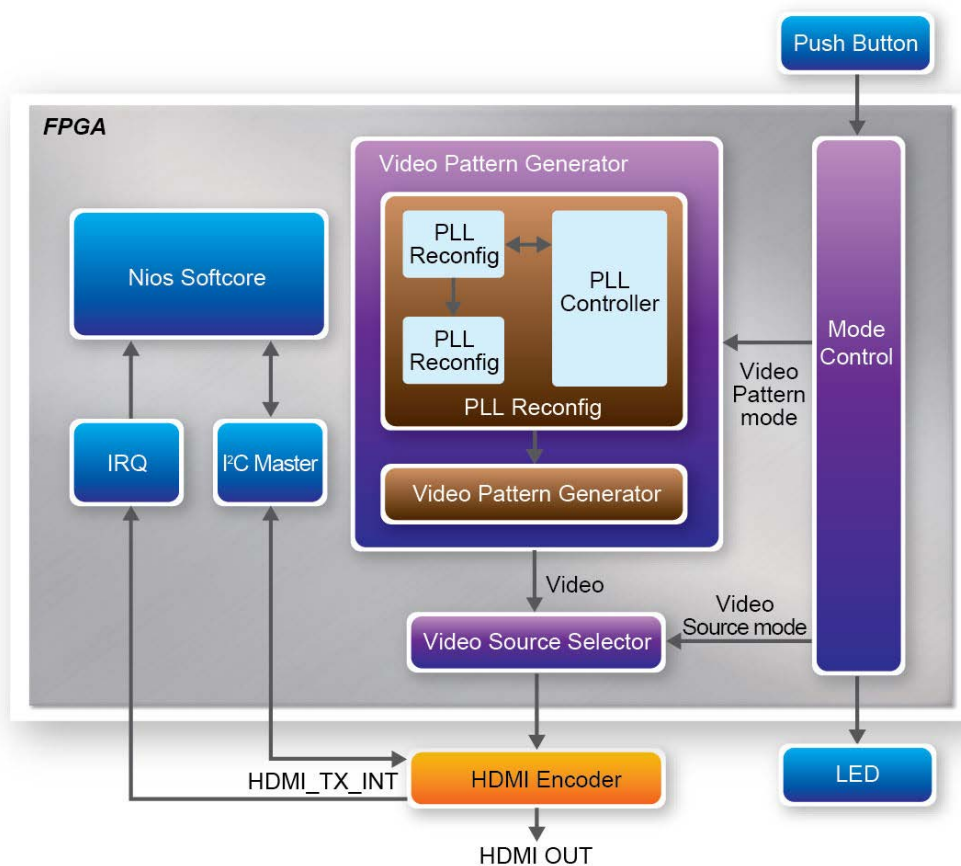

Figure 6-9 Block Diagram of the HDMI TX Demonstration
- Use File Manager to locate the "*C5G_HDMI_VPG\demo_batch*" folder. Launch the configuration and program download process by double clicking "*test.bat*" batch file. This will configure the FPGA, download the demo application to the board and start its execution. A console terminal will be kept on the screen and the user can interact with the demo application through the console box. After it's done the screen should look like the one shown in **Figure 6-9**.